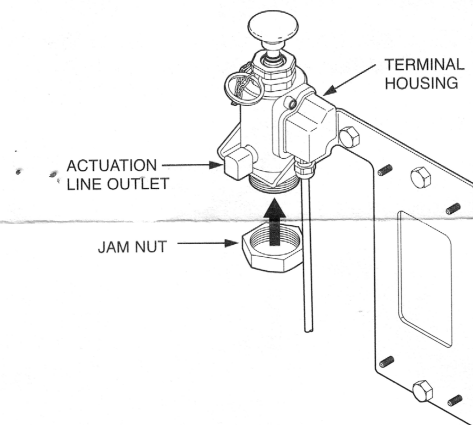

FIGURE 2
3. Reinstall jam nut but do not tighten at this time. See Figure 2.